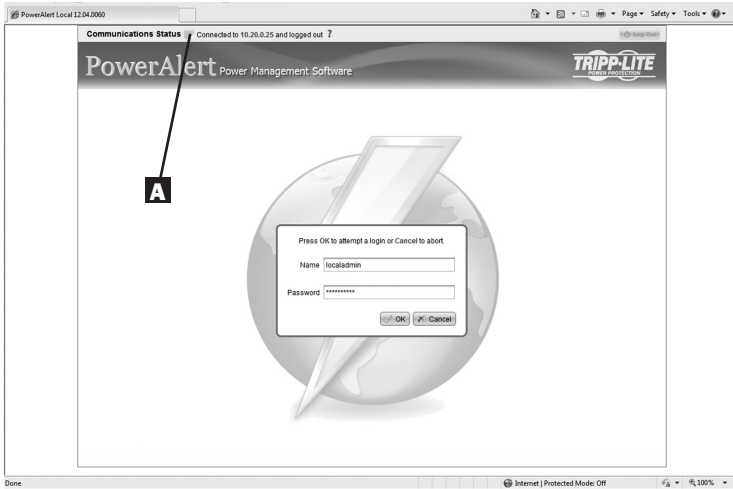

Figure 3-1: Web Console Login
3. After the applet is downloaded and connected, you should be prompted for a username and password (Figure 3-1). The default administrator username is **localadmin** and the default password is **localadmin**.